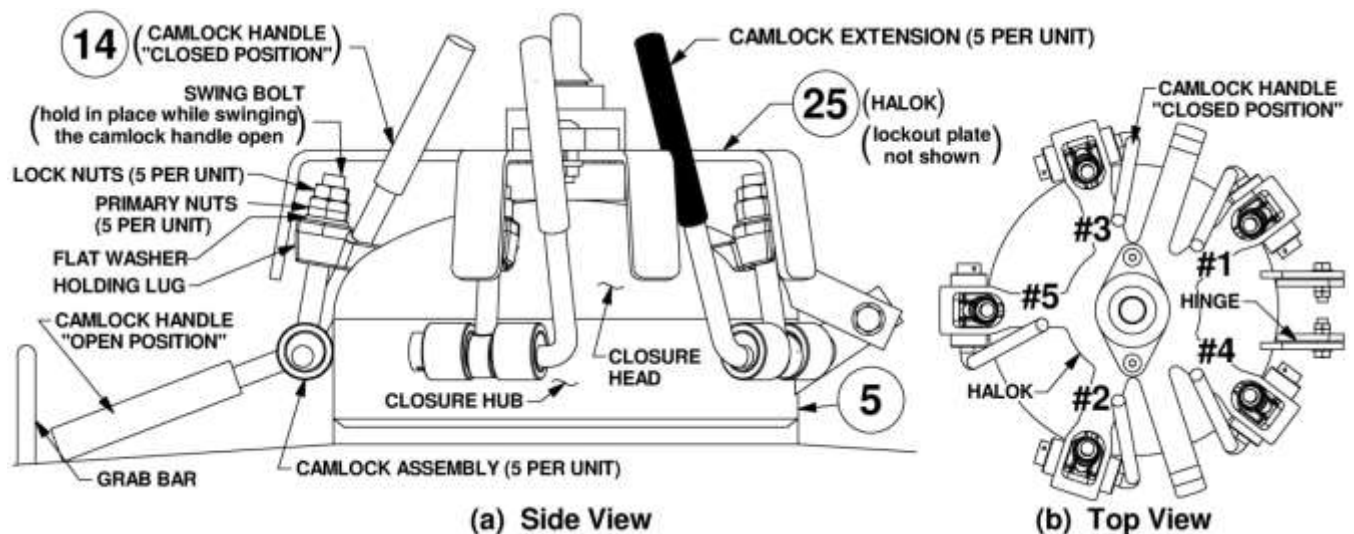

Figure 6.3.1 – Bulk Abrasive Blaster Closure Assembly
6.3.3. In the numbered sequence shown in Figure 6.3.1(b), swing each of the camlock handles (#14) of the closure (#5) into the “open position.” **DO NOT** swing any swing bolts out of the holding lugs. Hold the swing bolt within the holding lug with one hand and swing each camlock handle down with the other hand. Note: The Halok® Assembly (#25) prevents the swing bolts from swinging out of the holding lugs until all camlock handles are in “open” position. See Figure 6.3.1.